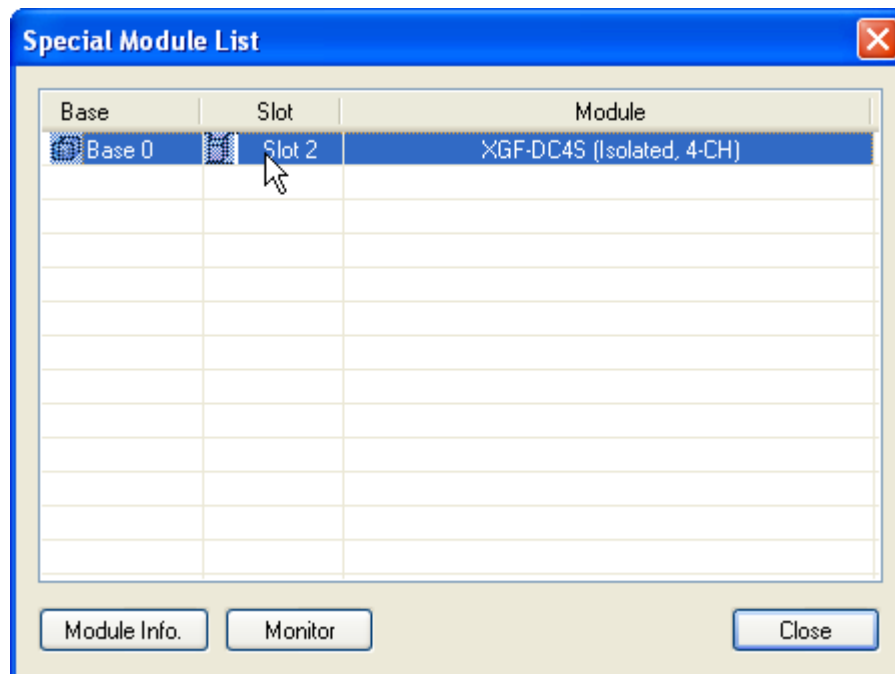
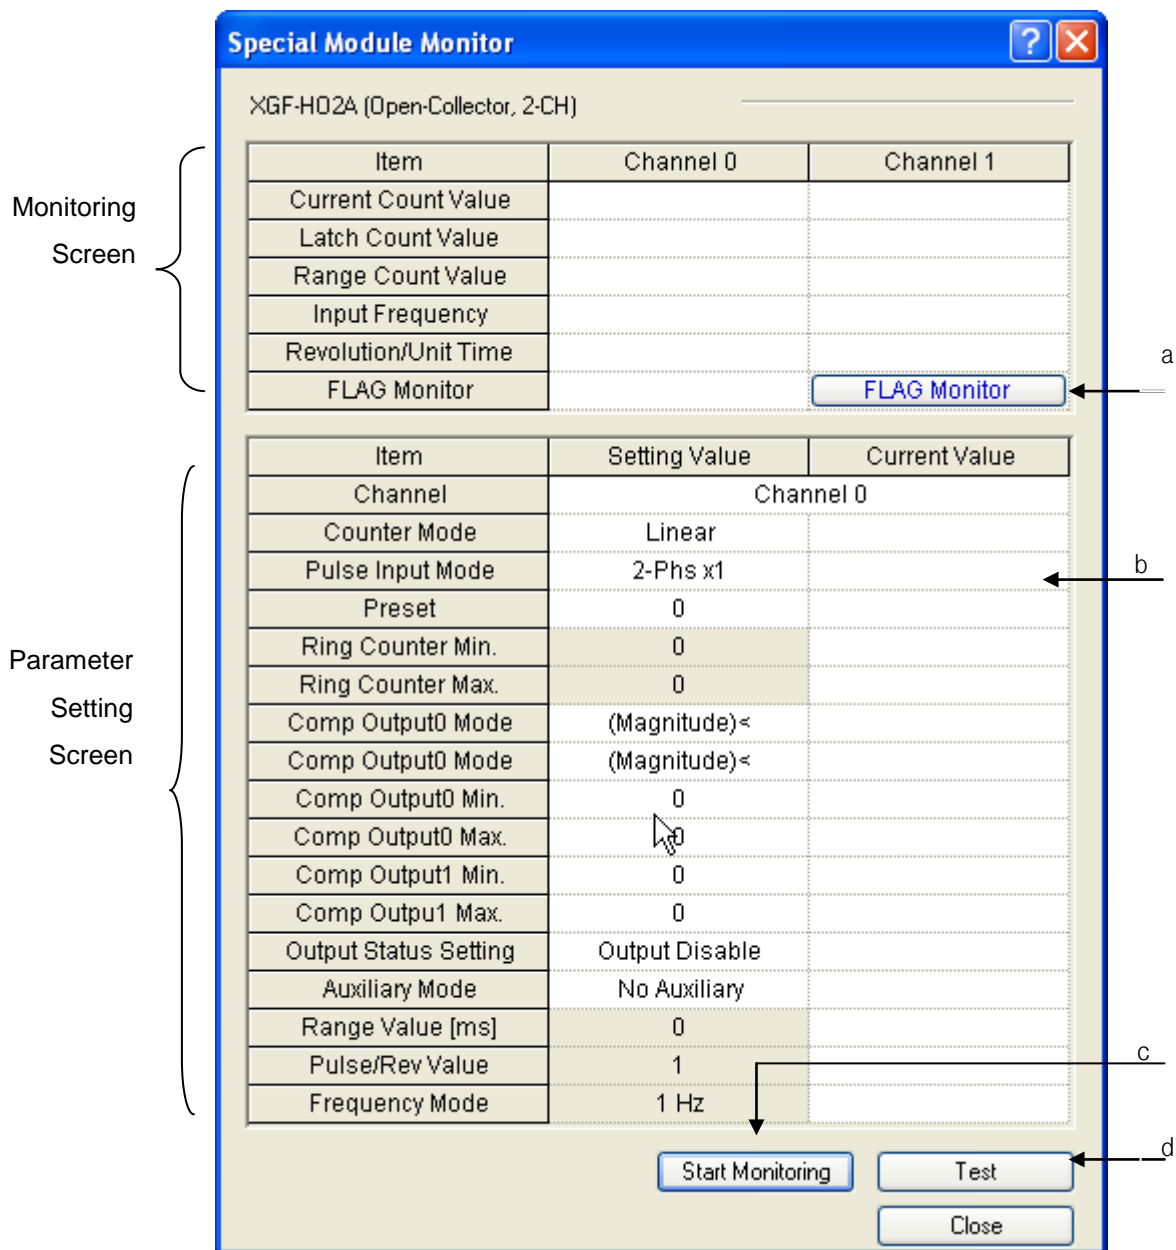

Fig. 1 Special Module Screen
Fig. 2 Monitoring/Test Screen (High-speed Count Module)
Select [Monitor]-[Special Module Monitoring] on the menu of XG5000 program to display “Special Module” list dialog box (as shown in Fig. 1). “Special Module List” dialog box displays the information list of the special module presently installed on the PLC system for the user to select a module on the list and then to click [Monitor] in order to show “Special Module Monitoring” dialog box (as shown in Fig. 2). Through the “Monitoring/Test” screen, the user can directly change the parameter value saved in the special module while checking the test operation and its status of the applicable module.
- a. FLAG Monitor (applicable only to HS counter module): Flag monitoring function is used to execute instructions for HS counter module. The user can check the instruction and input signal status along with HS counter monitoring/test screen as well as Flag monitoring screen (refer to Fig. 2) displayed at the same time.